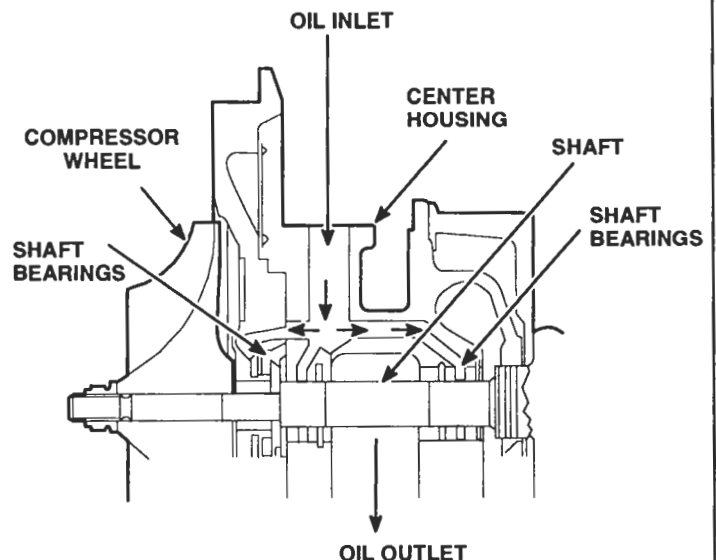

Figure 23. Location of Oil Passage in Center Housing
14. If there is an oil reservoir plug in the center housing, remove it in the following manner and discard it, as the plug is no longer required (Figure 23.) The plug should also be removed for thorough cleaning of the center housing.